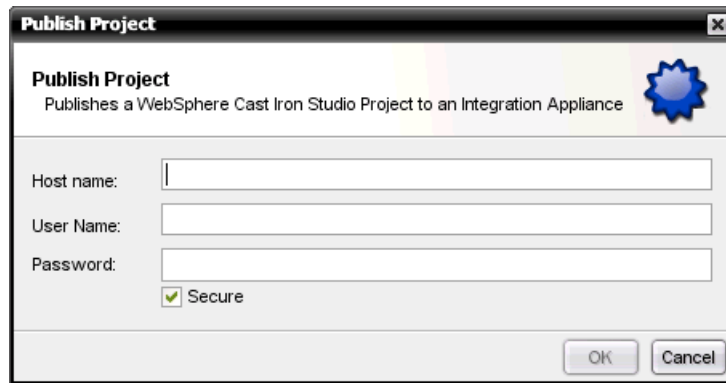

Figure 3-131 Publishing a project
3. In the Publish Project dialog box, shown in Figure 3-131, enter the host name of the management IP address for the Cast Iron Integration Appliance where you are publishing.